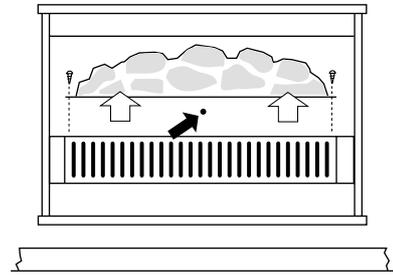

Fig. 5
- Remove the fuel effect by releasing the two screws securing it at either end – see Fig. 5